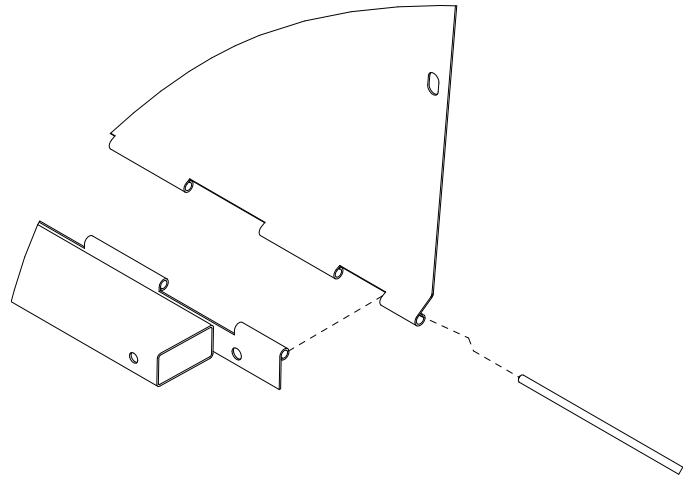

Figure 3 - Hinge Assembly
1. Align the front panel hinge with the front base connector hinge. Insert a 26.25" hinge pin through a hinge opening as shown (See Figure 3). Insert a 32.5" (9400/9500 models) or 43" (9600 models) hinge through the opposite opening. Repeat for rear panel.
2. Align the left panel hinge with the left base hinge. Insert a 32.50" hinge pin through the hinge opening as shown (See Figure 3). Repeat for right panel.